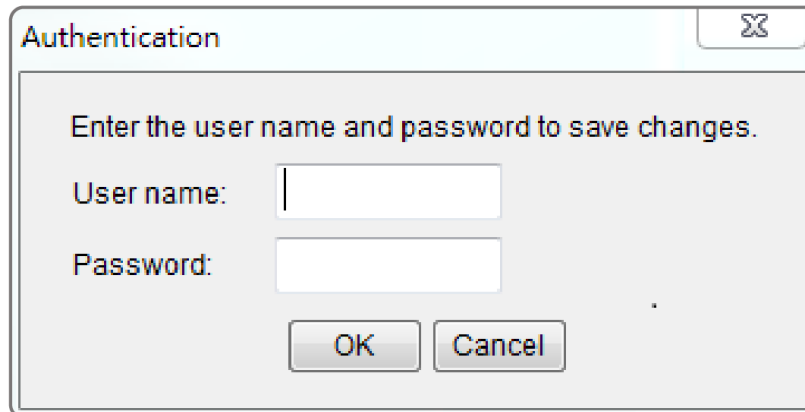

Figure 3. Authentication window.
7. You will need to enter a User Name and Password for the Power Management Card in the authentication window, as shown in Figure 3.